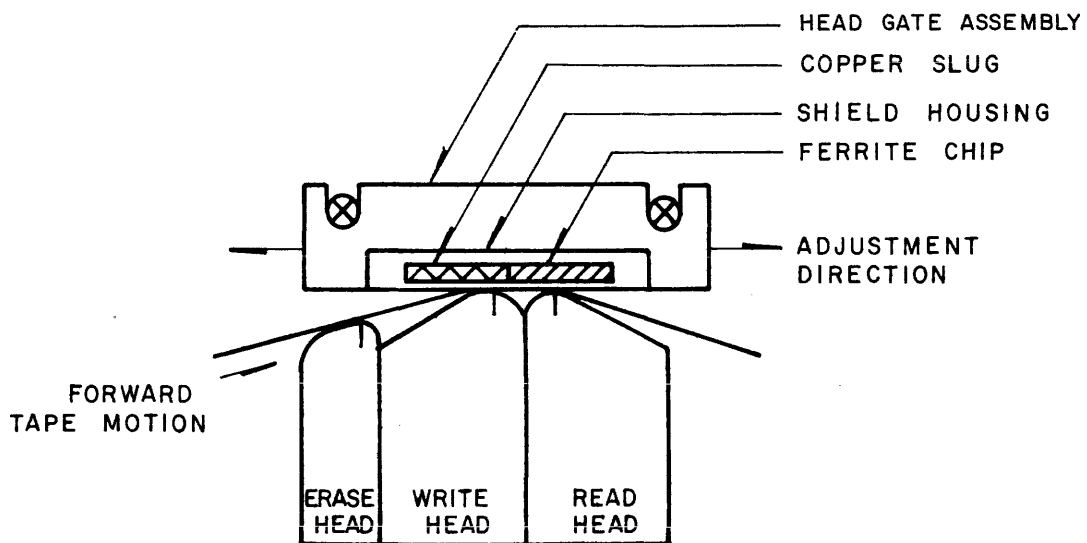

Figure 52. Head Gate Adjustment, Dual Gap Systems
3. Loosen the two head gate screws and reposition the gate by moving it in the plane shown in Figure 52 until a minimum amount of modulation voltage is observed on both channels. The edge of the ferrite chip should be approximately opposite the Write gap. Be sure that the shield housing is resting on the head block at front and back.